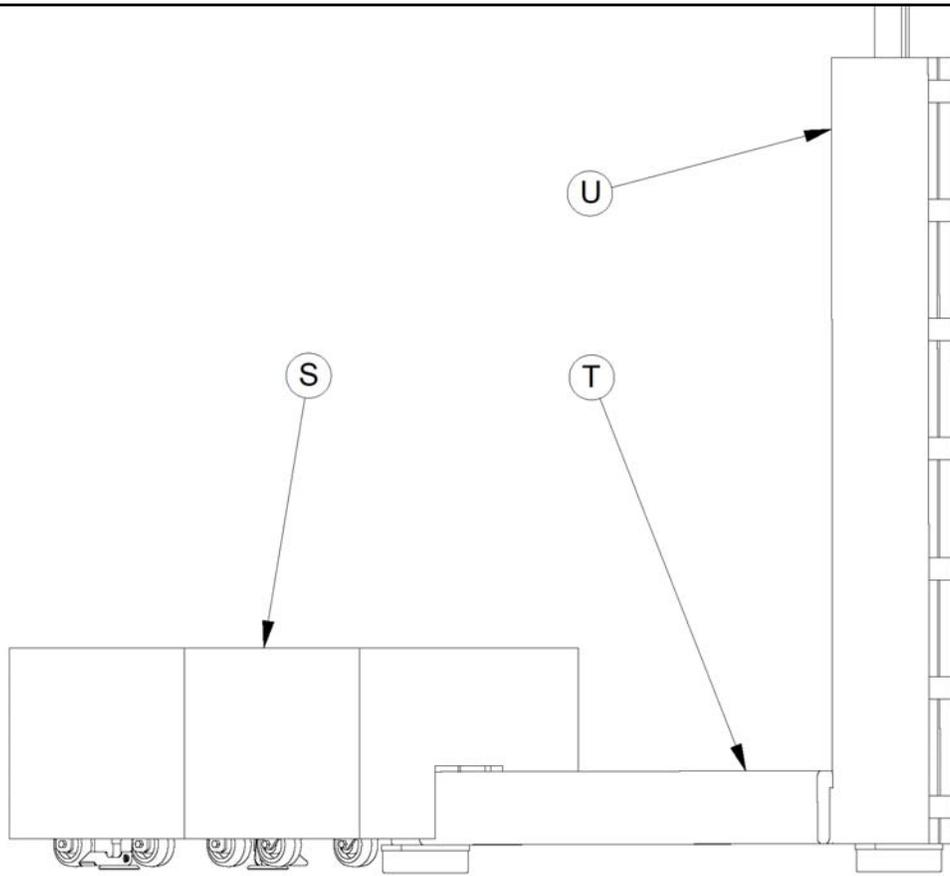

Figure 4
7. Install Adapter Socket (E) into socket on Extension Tube (D)
8. Insert Volleyball Post (V) into Adapter Socket (E) and tighten Lock Knob (F) to retain Volleyball Post (V) securely in the socket on Extension Tube (D)
9. Follow instructions provided with the Volleyball Posts (V) for Volleyball Net (W) attachment and Volleyball Net (W) height adjustment.
10. Install 2 Piece Base Pad (S) on Base (A), Extension Tube Pad (T) on Extension Tube (D) and Pole Pad (U) onto Volleyball Post (V). See Figure 4.
**2 Piece Base Pad (S) is designed to be folded over toward the back of the Base (A) to allow all padding to remain attached when Extension Tube (D) is rotated to the store/transport position. MAKE SURE LOCK PIN (Q) IS INSTALLED PRIOR TO TRANSPORTING SYSTEM.**